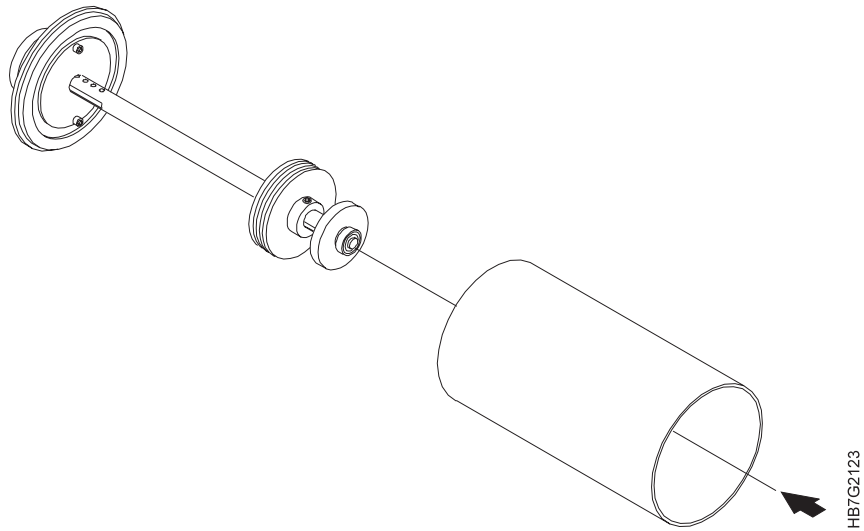

Figure 194. Removing Axle from Paper Roll Core
- 2 After you have removed the plastic flange, remove the axle from the core of the roll, as shown in Figure 194 on page 280.